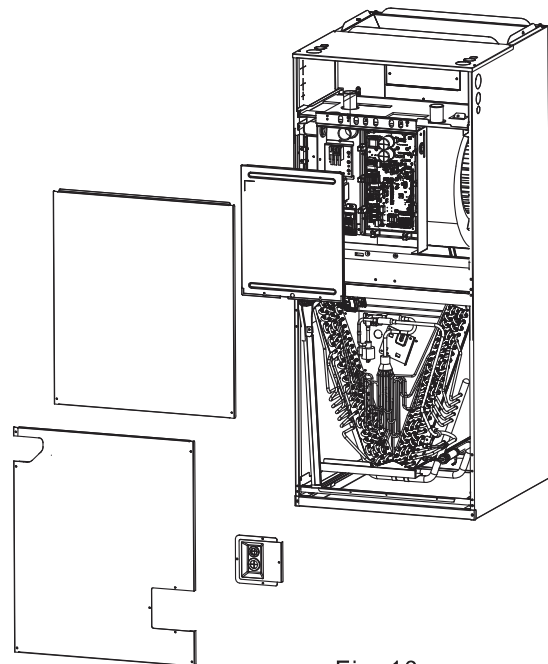

Fig. 10
(9) Reinstall electrical box cover, the lower panel, pipe and drainage hole cover and the upper panel. (Refer to Fig. 10)